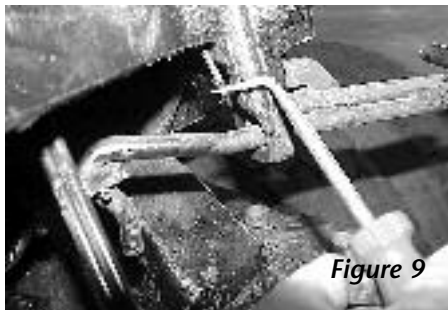

Figure 9
- Remove the cotter pin, safety indicator pin and safety indicator (Figure 9).